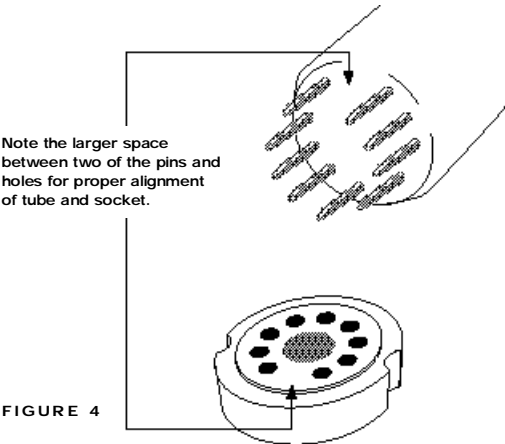

FIGURE 4
Connect the Detachable Power Cord to the Amp 2 AC Power Cord Socket (C) (see Figure 4). Plug your Amp 2 into the AC power source.